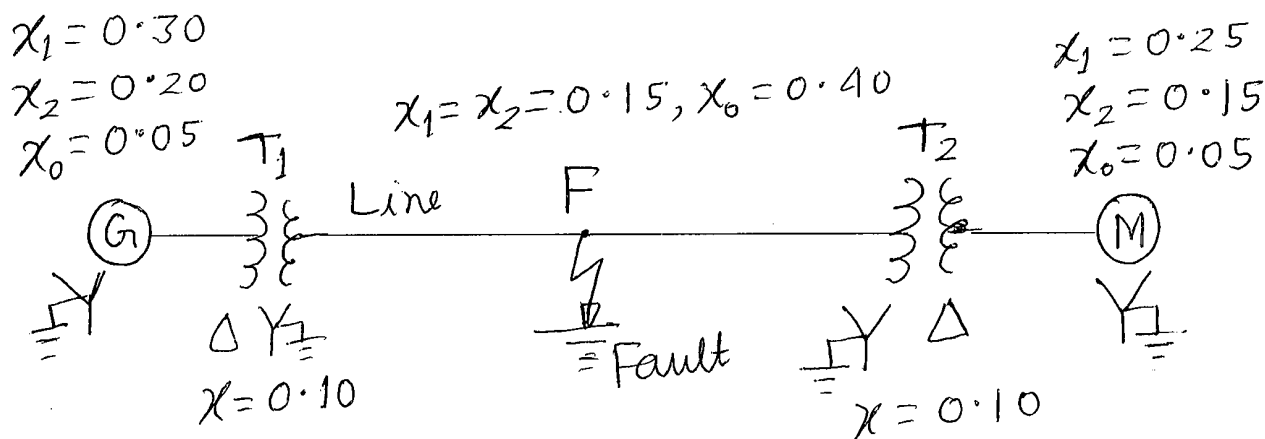

Fig. 8
- 8) The power system shown in Fig. 8 has a dead short circuit at the mid point of the transmission line. Find the fault current for a single line-to-ground fault. Both generator G and motor M are operating at their rated voltage. Neglect prefault current. Reactances are given in pu on the same base. 20